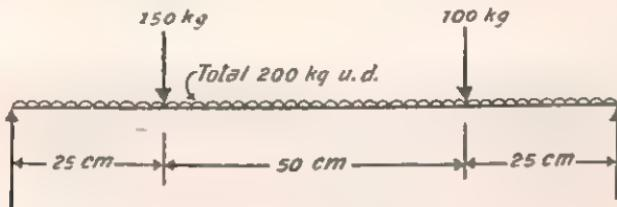

Fig. 75
9. A simply supported beam, 2.5 cm wide \times 5 cm deep, is loaded as shown in Fig. 75. Calculate the frequency of its natural transverse vibration. $E = 2 \times 10^6 \text{ kg/cm}^2$. (Engineering Services, 1967)